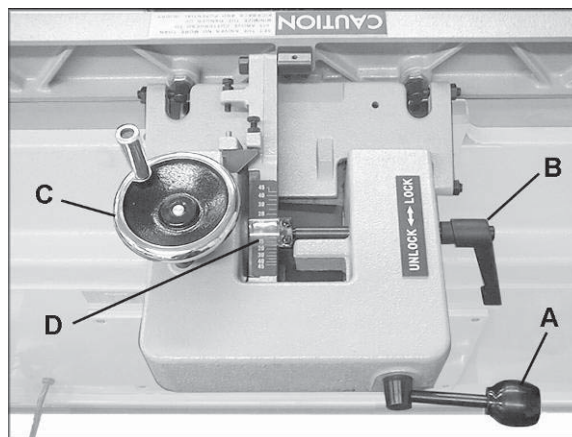
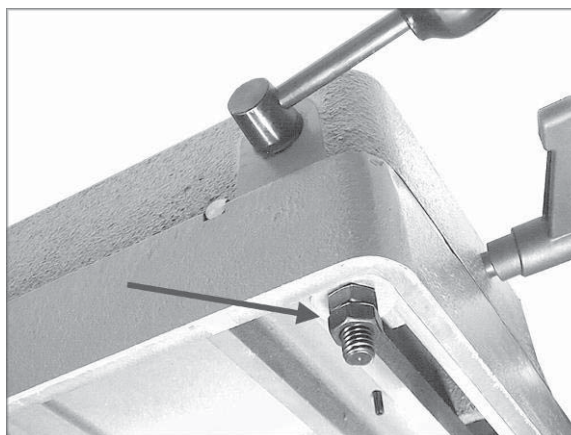

Figure 14
Figure 15
1. Loosen locking handle (A, Figure 14).
2. Push the entire fence assembly to the desired position, and tighten locking handle (A, Figure 14). A plastic buffer piece is mounted to the front of the fence to prevent scratching the table when the fence is moved.
NOTE: If the lock handle (A, Figure 14) is in an inconvenient position, it can be adjusted. Loosen the two hex nuts underneath the slide bracket (Figure 15). Flip the handle to the desired position, and re-tighten the hex nuts. Do not over-tighten the hex nuts, as this can make the fence difficult to move on the slide bracket.
1. Loosen locking handle (B, Figure 14).
2. Rotate handwheel (C, Figure 14) until the desired angle is indicated on the scale (D, Figure 14). Or you can place your beveled workpiece on the table and against the fence, and rotate the handwheel (C, Figure 14) until the angle of the fence matches the bevel of your workpiece.
3. Tighten locking handle (B, Figure 14).
To remove the fence assembly from the machine, remove the two hex nuts and one flat washer that secure it to the slide bracket (see Figure 15). Lift the fence straight up and off the Jointer.